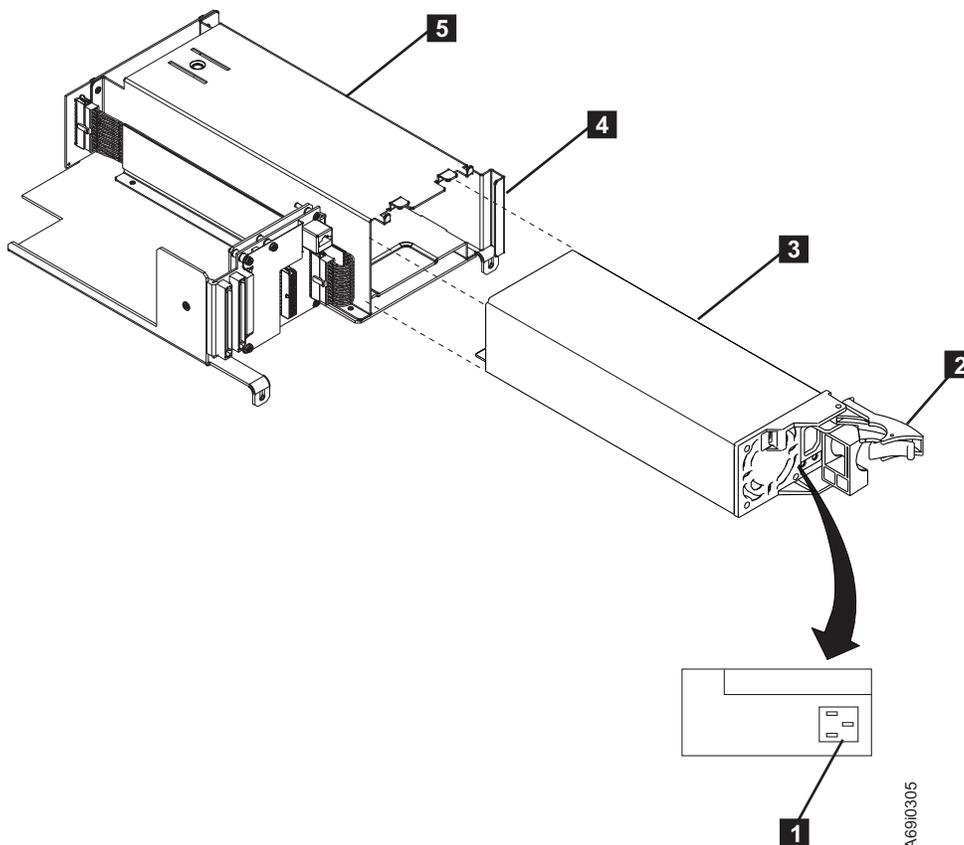

Figure 81. Removing or replacing a redundant power supply - models L22, D22, L52, or D52 hot swap
2. Disconnect the power cable (**1** in Figure 81) from the rear of the power supply.
6. With the locking arm **2** in the outward position, carefully slide the power supply canister (see **3** in Figure 81 on page 372) into the fixed tray assembly **5** as far as it will go.